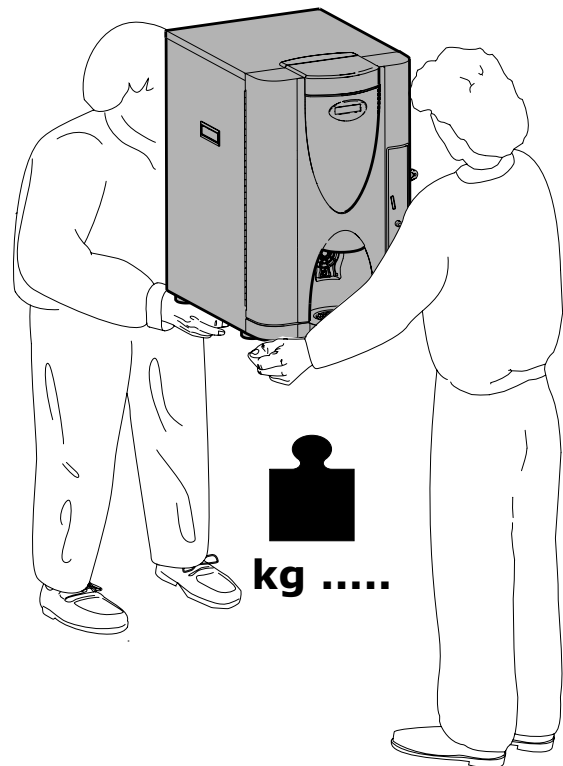

Fig. 4.1
4.1 Moving and transport (Fig.4.1)
The distributor must be shifted by 2 people (Fig.4.1).